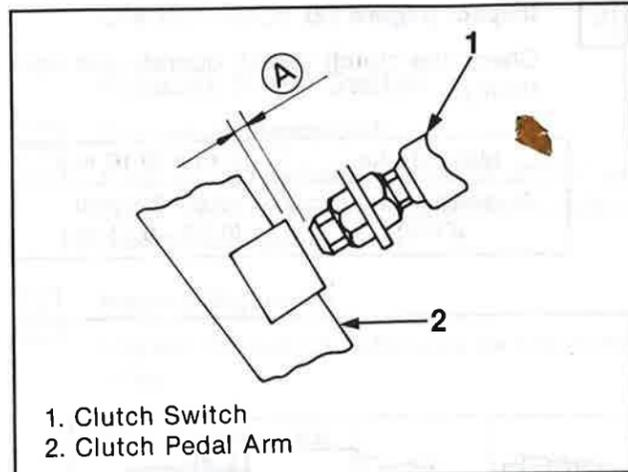

Figure 73. Adjusting Clutch Switch
- Adjust the switch in its bracket until 0.5 to 1 mm (0.02 to 0.04 inch) clearance exists between the fully depressed switch plunger and the contact area on the clutch lever (A) (figure 73).